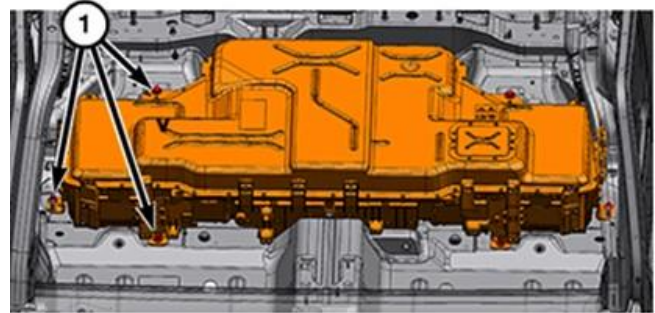

Figure 37 – HV Battery Bolts
40. Remove the bolts (1) securing the HV battery to the vehicle (Figure 37).
28. Install the HV battery pack bolts (1) and tighten to (Figure 37):